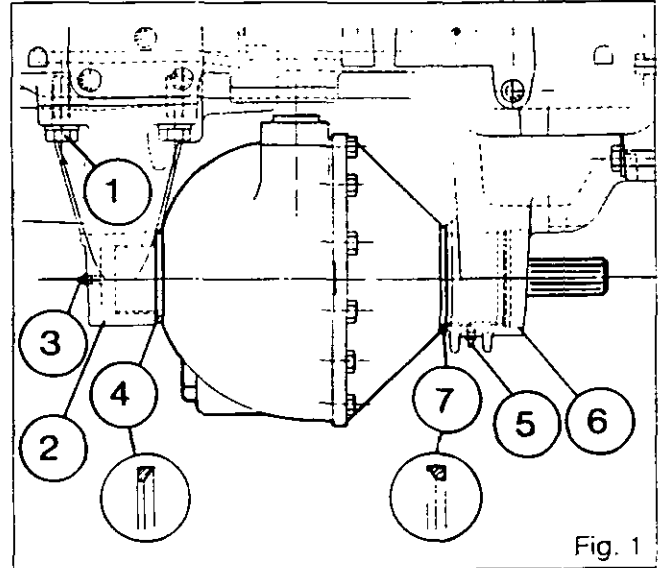

Fig. 1
7. Remove the bolts (1) and the grease nipple (3). Remove bearing (2) and washer (4) (Fig. 1).
8. Remove the front axle, disengaging it from its rear bearing, and place it on a support. Remove the chamfered washer (7) (Fig. 1).